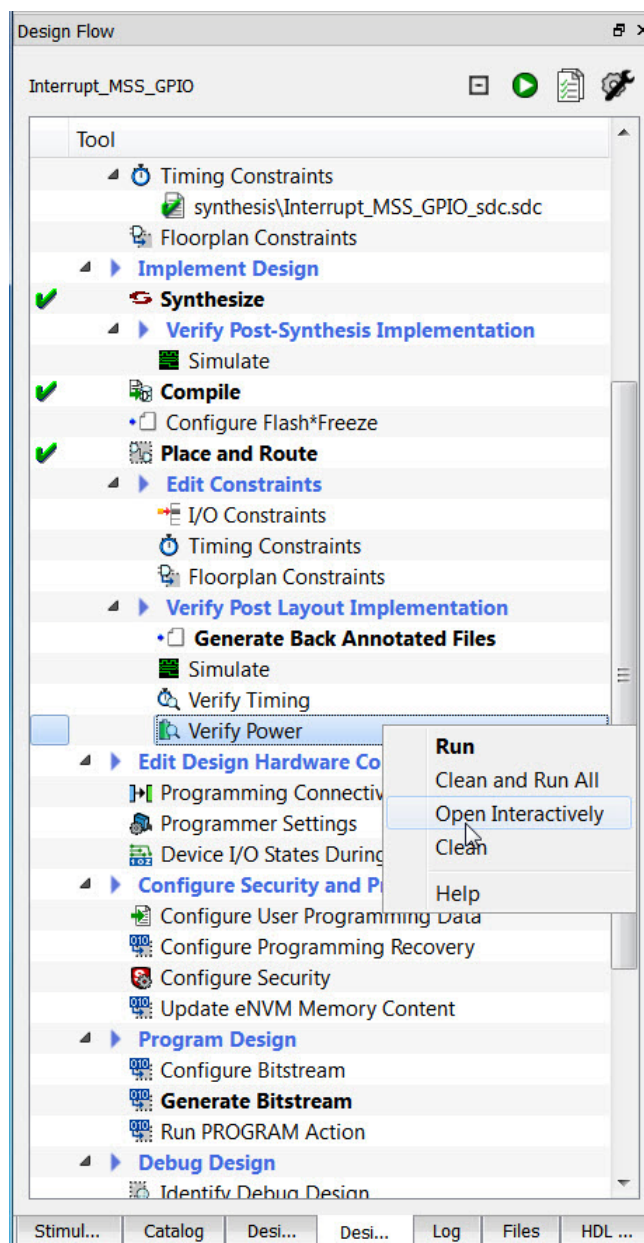

Figure 5-8 • Power Analysis
1. From the Design Flow window, right-click **Verify Power** and choose **Open Interactively** to start power analysis (Figure 5-8).